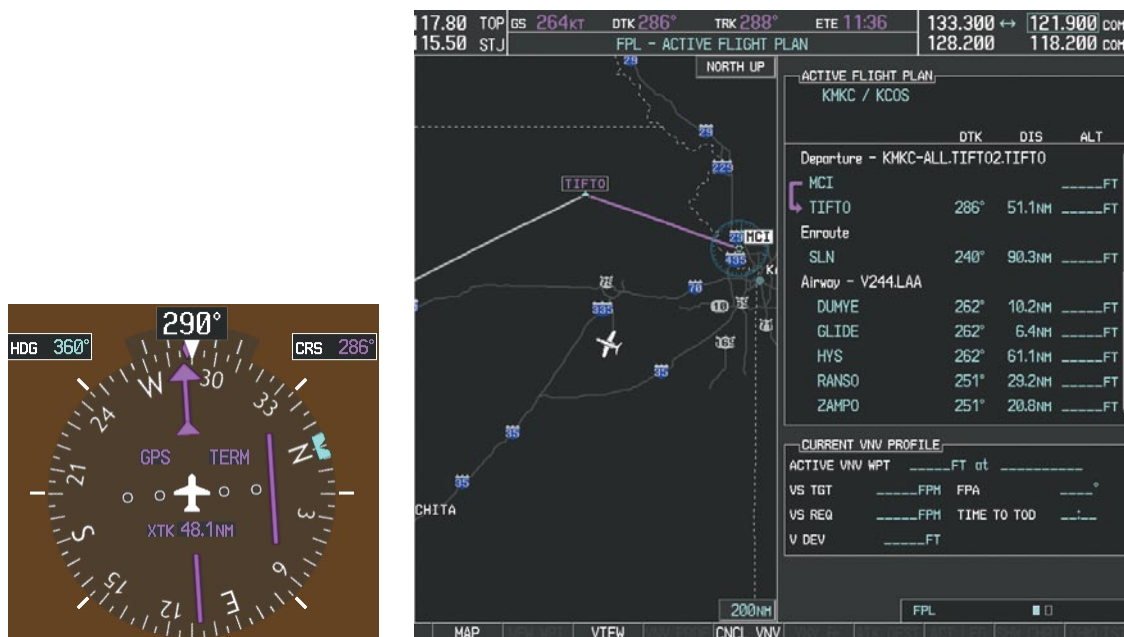

Figure 5-106 Assigned Heading of 290°
- 3) ATC now assigns routing to join V4. A heading of 290° is assigned to intercept V4. The aircraft turns to heading 290° as seen in Figure 5-106.